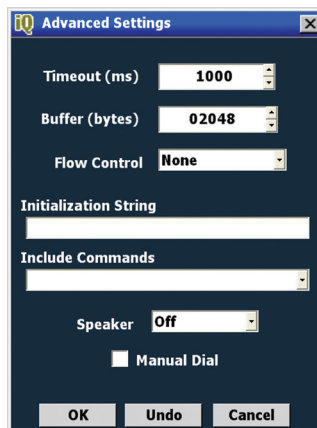

Figure 4.4 - Modem Advanced Settings
- 4 Click the **Advanced...** button for additional modem settings (see Figure 4.4).